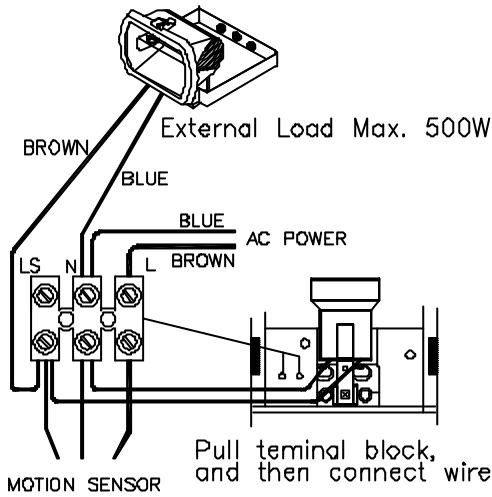

FIGURE 8
- (5) Connect the BROWN (BLACK) wire to terminal block "L" mark. Connect the BLUE (WHITE) wire to terminal block "N" mark (FIGURE 8). After wiring, replace terminal block and block cover back to the original place.
Note: Under the circumstances of not connecting to the extra lighting load, the unit housing can either fit a 60W maximum incandescent bulb or a 13W PL bulb. However, it can still commute additional lighting load up to 500W incandescent. Those extra lighting devices may be added as follows (FIGURE 8).